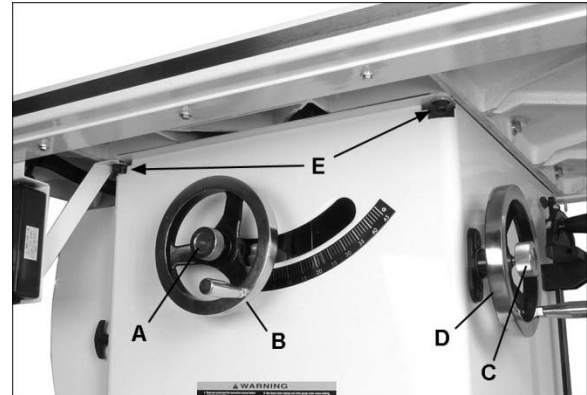

Figure 17
1. To raise or lower saw blade, loosen lock knob (A, Figure 17) and turn handwheel (B) on the saw front until desired height is reached. Tighten lock knob. Blade should be adjusted no more than 1/8" to 1/4" above top surface of material being cut.
2. To tilt blade, loosen lock knob (C, Figure 17), turn handwheel on right of saw cabinet (D) until desired angle is obtained, then tighten lock knob.
7. If measurements are not equal, locate the four screws that hold table to cabinet (E, Figure 17).